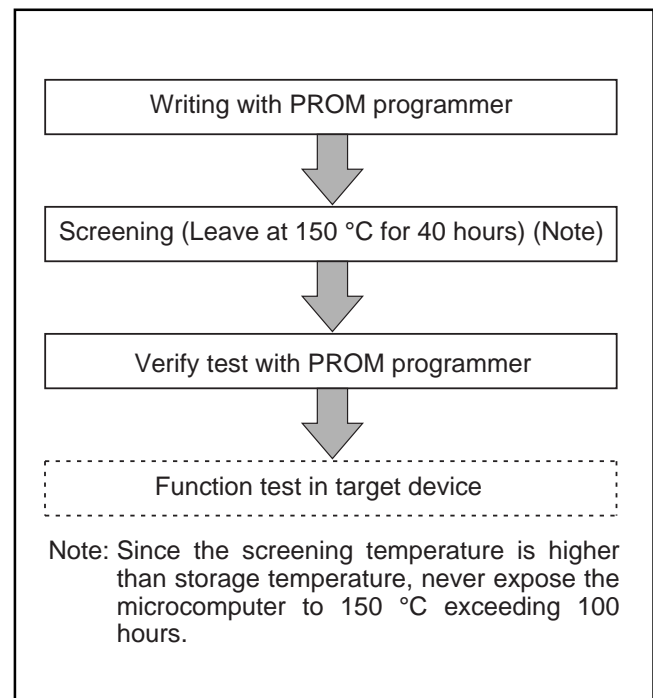

Fig. 37 Flow of writing and test of the product shipped in blank
(2) Notes on handling
- ① A high-voltage is used for writing. Take care that overvoltage is not applied. Take care especially at turning on the power.
- ② For the One Time PROM version Mitsubishi Electric corp. does not perform PROM writing test and screening in the assembly process and following processes. In order to improve reliability after writing, performing writing and test according to the flow shown in Figure 37 before using is recommended.